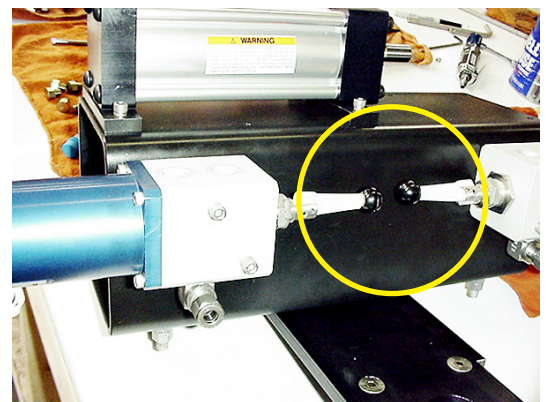

Figure C1.4-2 Solenoid Manual Override Levers (Position B)
2. If the unit is fail-in-place during power loss, place both solenoid valves in position B as shown in Figure C1.4-2.